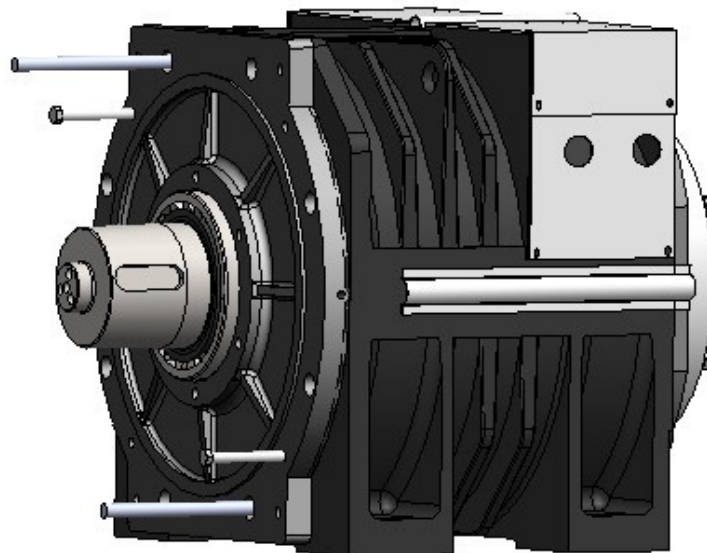
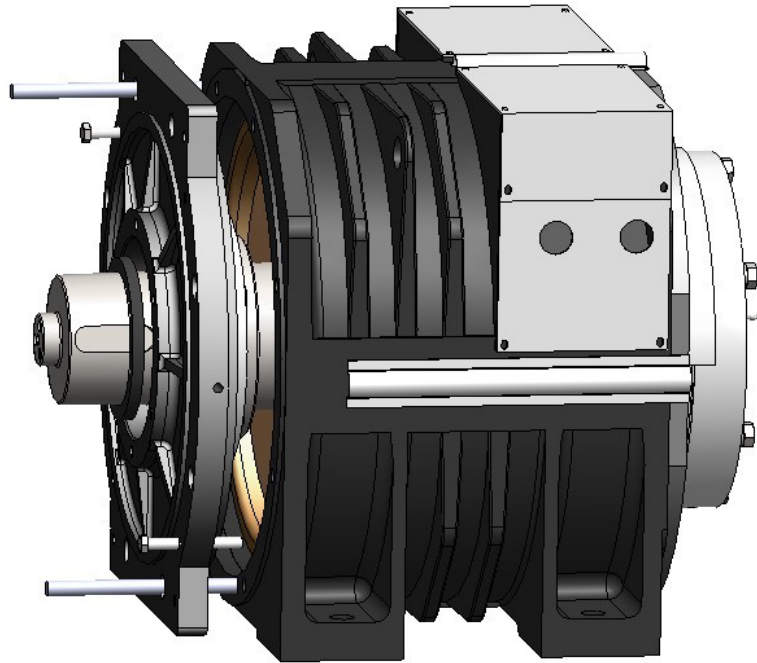

Figure 80 Install threaded rods and M12 bolts
Figure 81 Remove Front Cover
7. Screw the threaded rod M16x200 (2 pieces) into the M16 hole of machine base opposite each other. Screw the bolts M12x100 into the M12 hole of Front Cover opposite each other. Tighten the bolt M12x100 (2 pieces) evenly and slowly with open end wrench (18mm) until the Front Cover is out of the bearing. See Figure 80 and Figure 81.